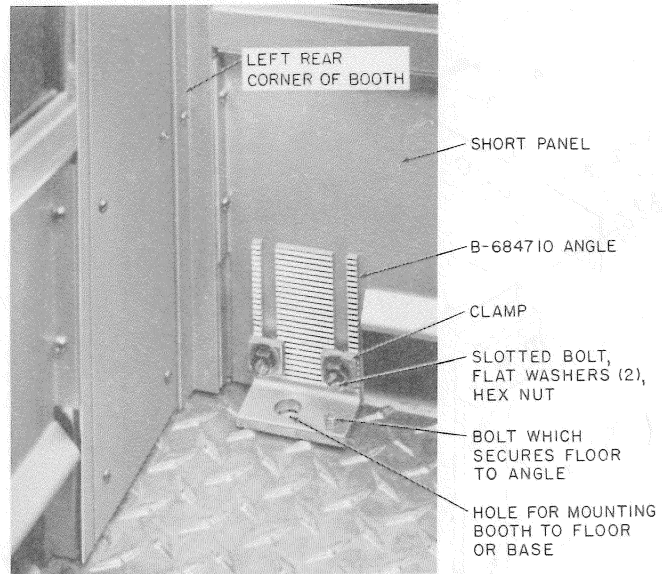

Fig. 11—Anchor Bracket and Leveling Device
2.21 Adjustable mounting angles are provided to facilitate booth leveling up to 3 inches (Fig. 11). They are also used for bolting the booth to its mounting surface.
- (a) If a KS-19580, List 28 foundation template is used, remove insert plugs from template and secure anchor brackets (Fig. 11) of booth to template using four 3/8-16 by 1-1/4 hex head bolts, four 3/8-inch lockwashers and four 3/8-inch flatwashers.
- (1) Mark the locations for four mounting holes.
- (2) Drill four 5/8-inch diameter holes to accept 3/8-inch machine bolt anchors for bolts.
- (3) Install the fasteners.
- (4) Secure anchor brackets of booth to bolt anchors using four 3/8-16 (length required) hex head bolts, four 3/8-inch lockwashers, and four 3/8-inch flatwashers.
- (1) Mark the location for four mounting holes.
- (2) Drill four lead holes to accommodate 5/16 by 2-1/2 inch lag screws.
- (3) Secure booth to floor using the four 5/16 by 2-1/2 inch lag screws, four 5/16-inch lockwashers, and four 5/16-inch flatwashers.
- (d) Adjust the anchor brackets (Fig. 11) if necessary, and ensure that the booth is level.